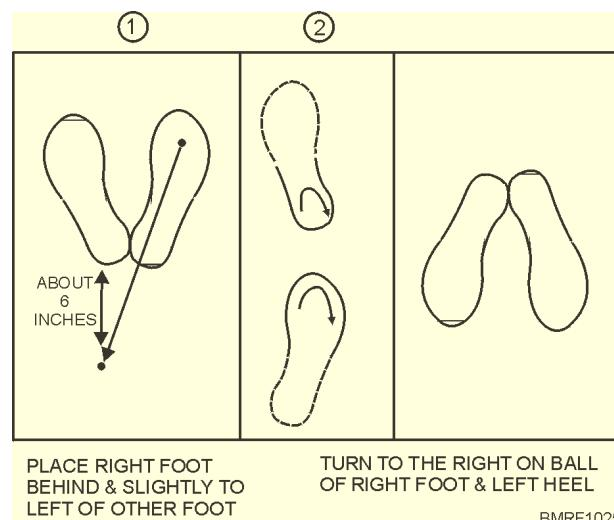

Figure 10-25.—About Face.
ABOUT FACE. About face is a two-count movement performed on the commands **About FACE**. On the command **About**, shift your weight to your left leg without noticeable movement. On the command **FACE**, (1) place your right toe about 6 inches behind and slightly to the left of your left heel (fig. 10-25); (2) on the ball of the right foot and the heel of the left foot, turn smartly to the right until you are facing the rear. Your feet will be in the position of attention when the turn is